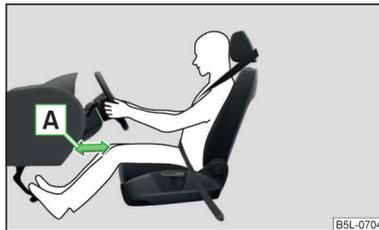

Fig. 11
- Adjust the driver's seat in a forward/back direction so that there is a gap of at least 10 cm between the legs A and the dash panel in the vicinity of the knee airbag » Fig. 11. If it is not possible to meet this requirement due to your body size, visit a specialist garage.